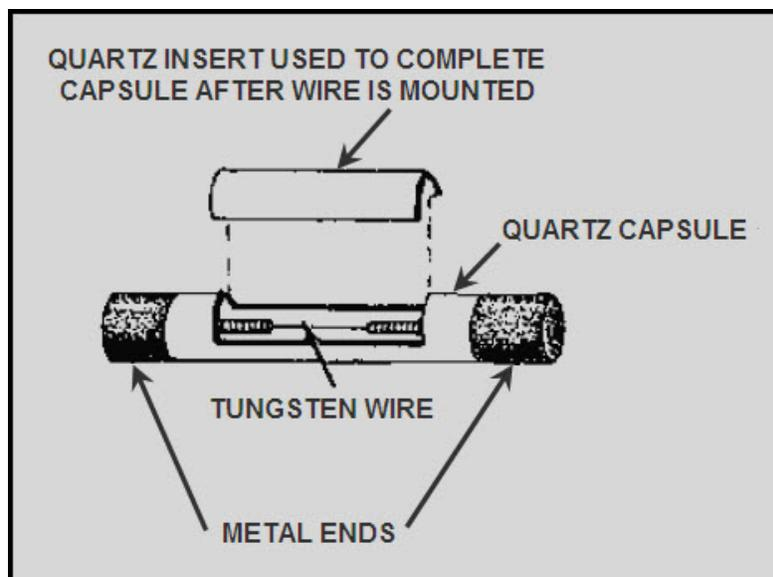

Figure 2-2 Typical barretter
**BARRETTTER** - The construction of a typical barretter is shown in figure 2-2. The fine wire (usually tungsten) is extremely small in diameter. This thin diameter allows the rf current to penetrate to the center of the wire. The wire is supported in an insulating capsule between two metallic ends, which act as connectors. Because of these physical characteristics, the barretter resembles a cartridge-type fuse. The enclosure is a quartz capsule made in two parts. One part is an insert cemented in place after the tungsten wire has been mounted. In operation, the barretter is matched to the rf line after power is applied.